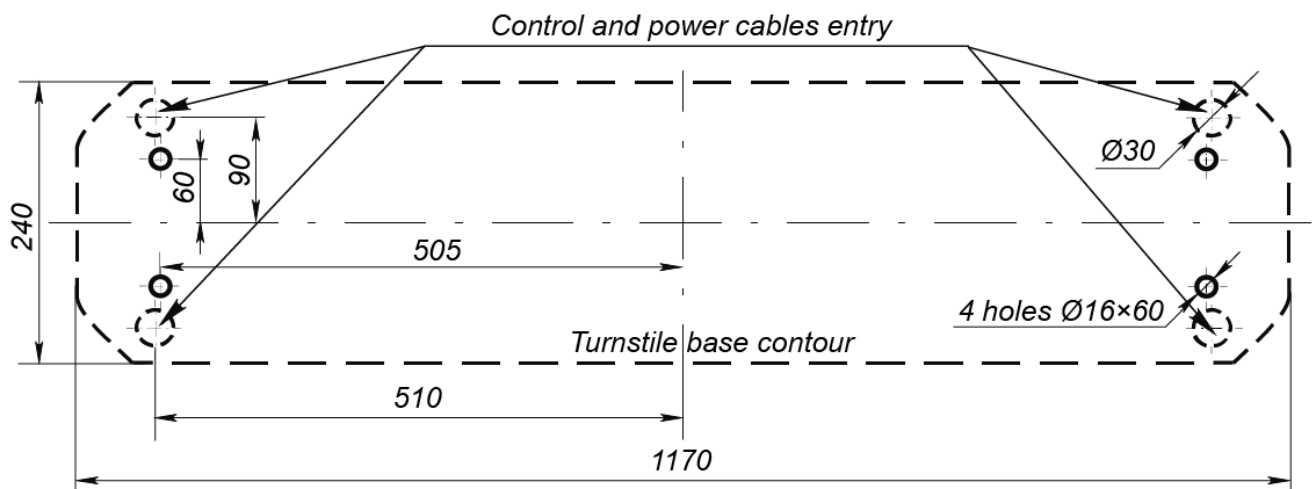
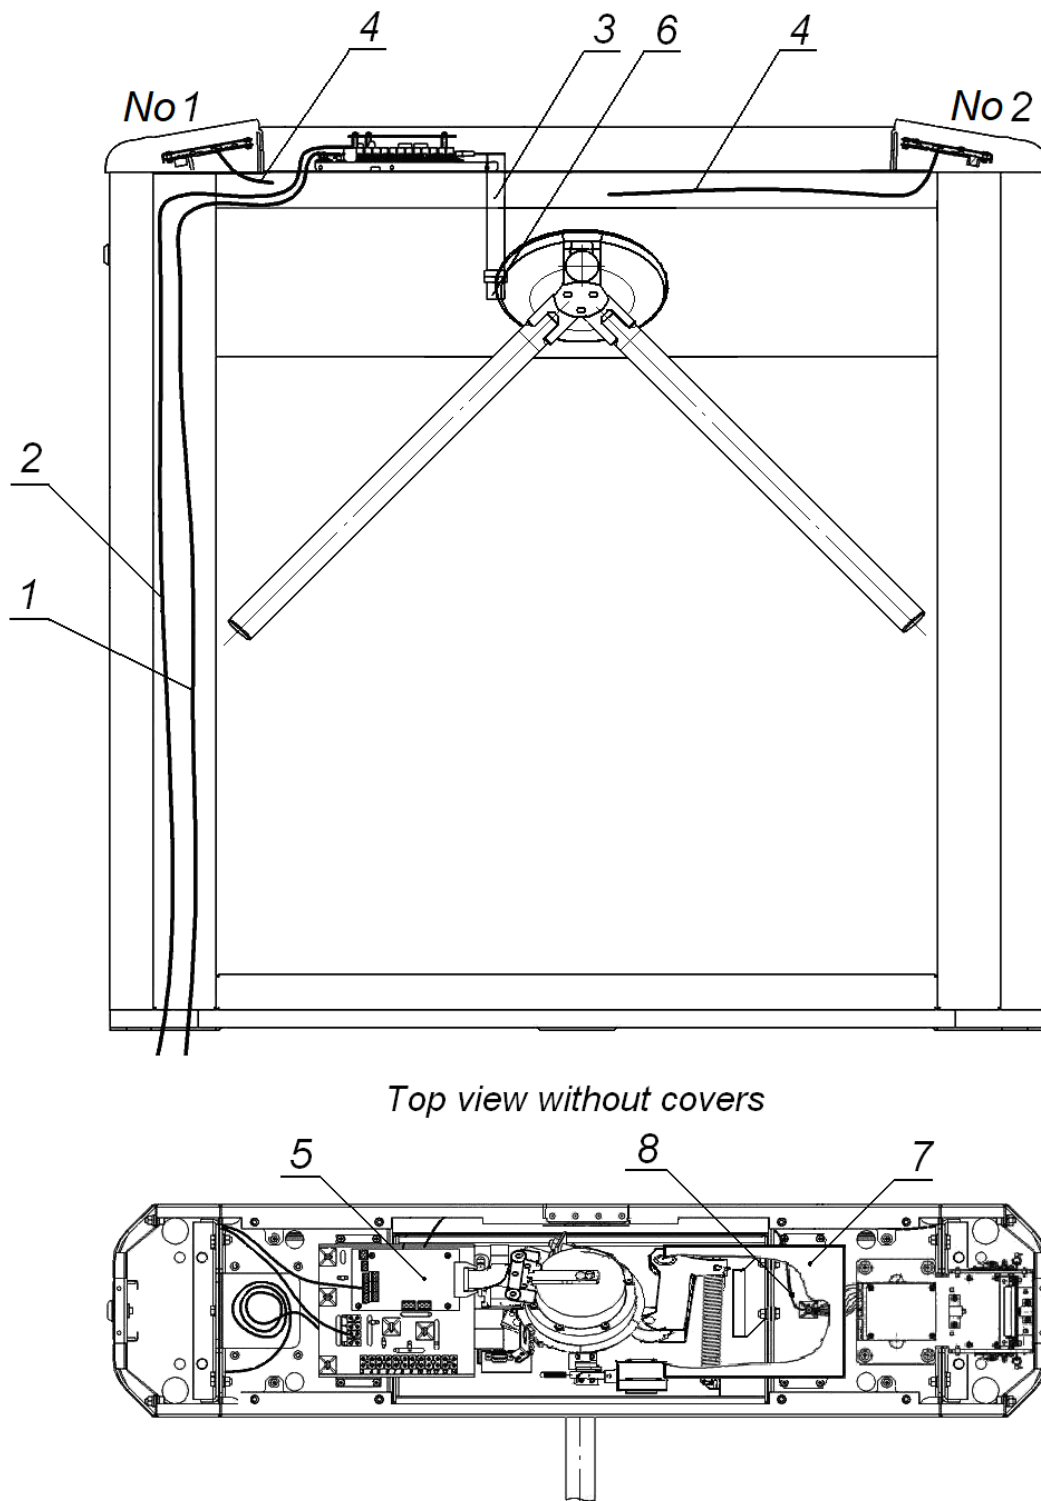
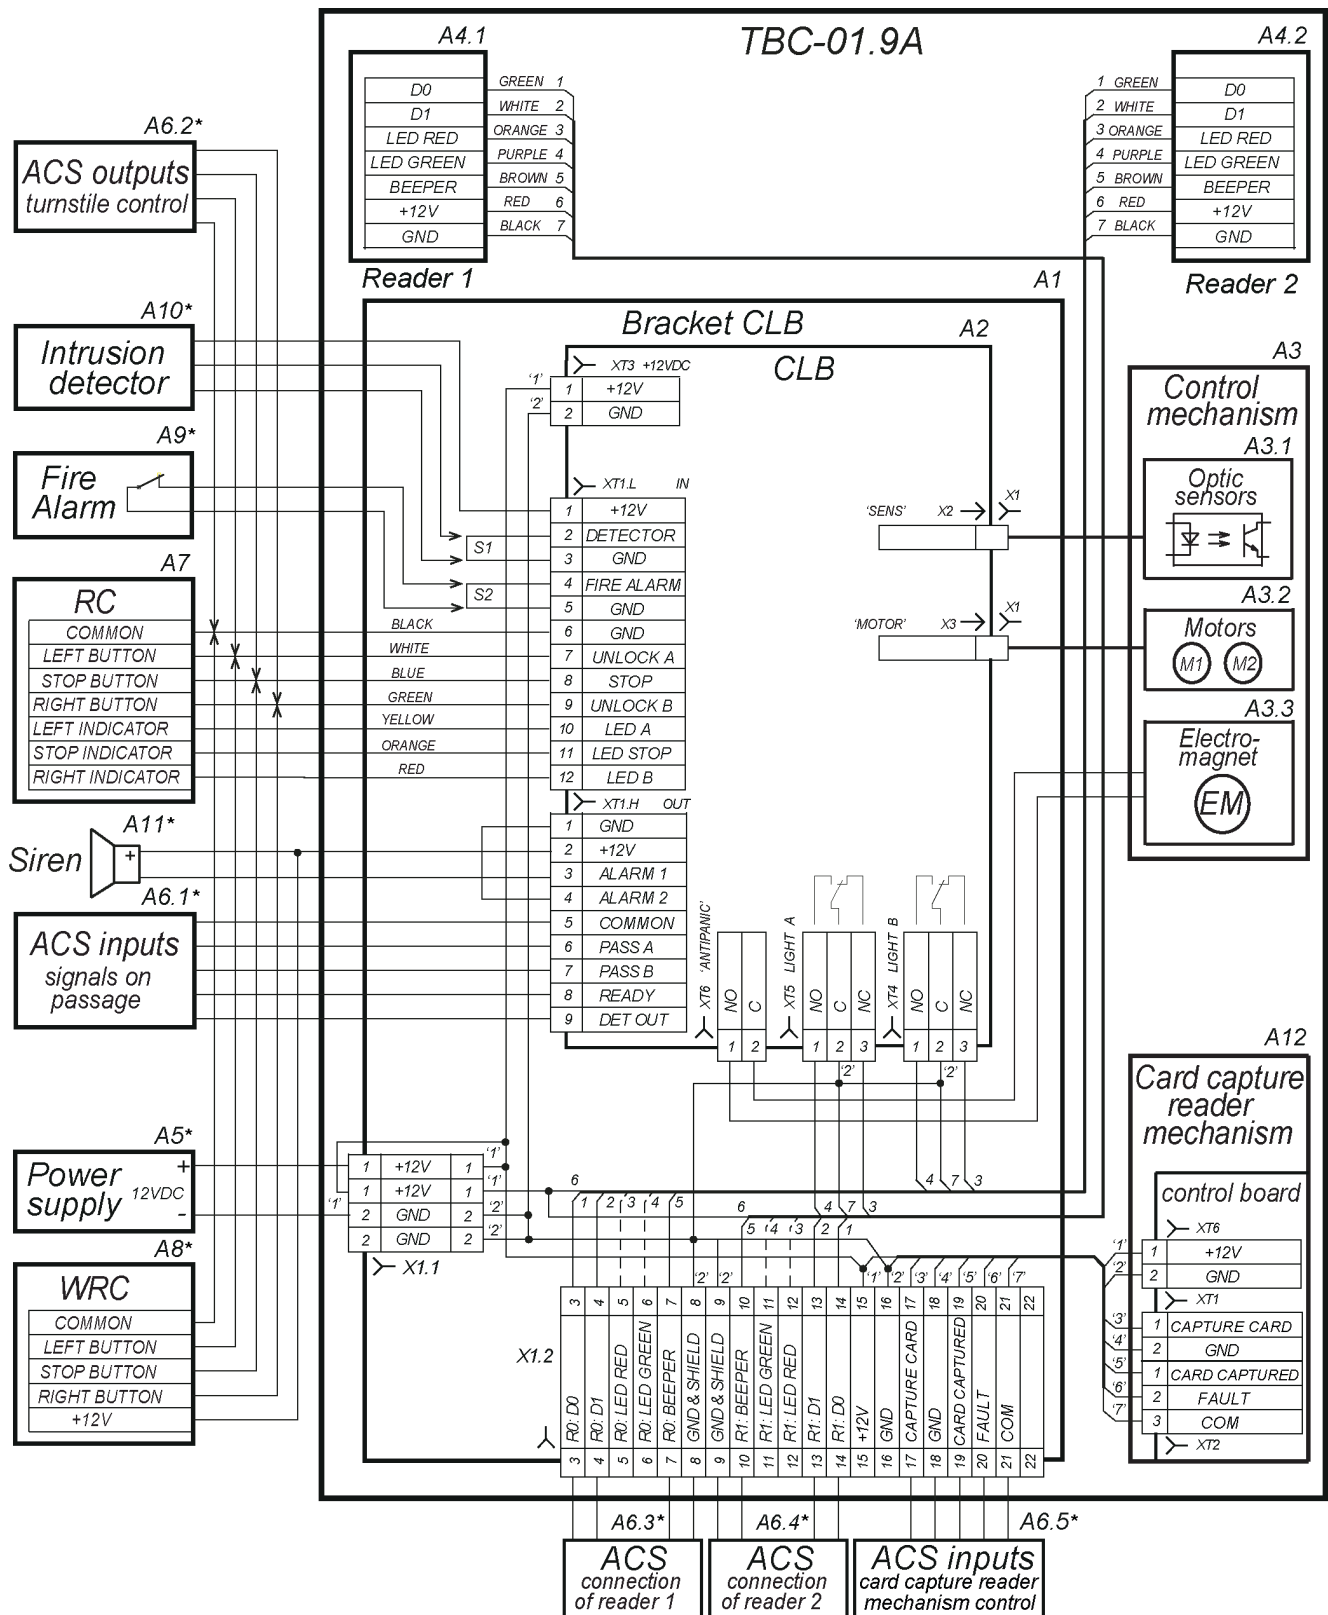
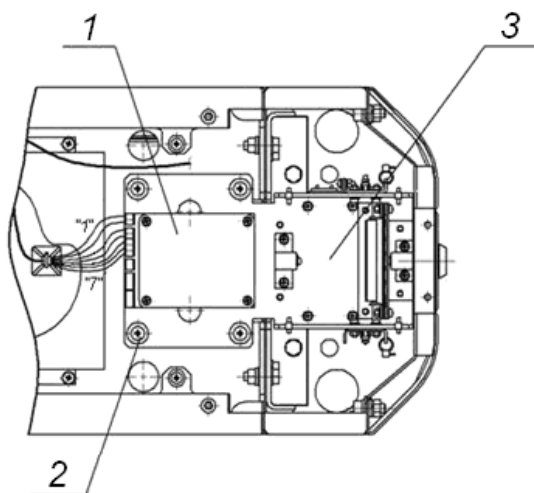

Fig. 12. Marking layout for the TBC-01.9A turnstile housing installation¹
Fig. 13. Cable routing inside the turnstile housing
Fig. 14. Electrical connection layout of the TBC-01.9A turnstile and additional equipment¹
Fig. 15. Card capture reader mechanism
1. Make holes for anchor sleeves in the floor to fix the turnstile housing (Fig. 12). If it is necessary to lay cables under the floor surface, prepare a cable duct in the floor so that it leads to the area where these cables enter the turnstile housing. Install and fix the turnstile housing only after all cables have been laid inside the turnstile housing and in the cable duct. Cable routing inside the turnstile housing is shown in Fig. 13.
3. Remove the turnstile housing side cover (7) and card container (9) by unlocking the locks (8, 10) with a key. Mount the housing on the anchor sleeves and fix it with M10 bolts.
5. Remove the turnstile housing top cover (3) by unlocking the set screw (13) with an Allen key (13) (see Sect. 6).
6. Connect the power cable (14) to the **X1.1** terminal block (see Fig. 14).
8. Connect cables of other devices, if required, to corresponding terminal blocks of the control board (see Fig. 5 and Fig. 14). Check the serviceability and accuracy of all the electrical connections.
10. After all the cables have been connected, and the turnstile housing has been fixed to the floor, install the top cover (3) (see Section 6) as well as the turnstile housing side cover (7) and card container (9) back in their place in reverse order to their removal.
The card capture reader can be installed either at the entrance way or at the exit way. When reorientating the card capture reader, the front covers (5) with card readers are not swapped. By default, the card capture reader mechanism is installed on the side of reader No. 2 (Fig. 13).
To reorientate the card capture reader mechanism (3, Fig. 15), i.e., to install it on the side of reader No. 1, proceed as follows (item numbers are given in accordance with Fig. 2, unless stated otherwise):
- 1 Take off the top cover (3) in accordance with Section 6.
- 2 Remove the card container (9) by opening the lock (10).
- 3 Remove the turnstile housing side cover (7) from the opposite side by opening the lock (8).
- 4 Take off the front covers (5); each front cover is fixed with two M4×16 screws and two Ø4.2×19 screws from below, from the side of the card container (9) or the turnstile housing side cover (7); do not disconnect the card reader cables that are located inside the front covers.
- 7 Disconnect the card capture reader cable (8, Fig. 13) from the side of the card capture reader control board.
- 8 Remove the card capture reader mechanism (3, Fig. 15), which is fixed with four M5×20 screws (2, Fig. 13), and install it on the opposite side of the turnstile, fixing it in a similar place with the same screws.
- 9 Reposition the card capture reader cable (8, Fig. 13) to the side of reader No. 1. Use self-adhesive cable tie mounts and plastic cable ties from the standard delivery set to fix the cable.
- 10 Connect the cable of the card capture reader (8, Fig. 13) to the card capture reader control board (Fig. 10) in accordance with the layout shown in Fig. 14.
- 11 Install the front covers (5) back into their working position and fix them in reverse order to their removal.
- 12 Install the card container (9) in the working position on the same side as the card capture mechanism, and the turnstile housing side cover (7) on the opposite side.
- 13 Install the top cover (3) in the working position (see Section 6).
Data are transmitted from the readers via the *Wiegand* interface. The readers are connected to the ACS controller with a shielded cable in accordance with Fig. 14.
* By default, the control lines for LED indication of the readers are connected to the **XT4** and **XT5** terminal blocks of the control board (see Fig. 14). To exercise external indication control from the ACS controller, the orange and purple wires of the readers need to be disconnected from the **XT4** and **XT5** connectors of the control board and connected to the corresponding contacts of the **X1.2** remote terminal block.
The ACS controller is connected to the control board of the turnstile in accordance with Fig. 14. The card capture reader mechanism is controlled via the ACS controller in compliance with the requirements of Section 5.7.